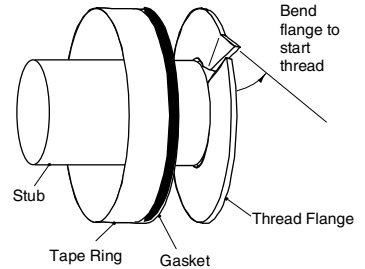

Figure 3. Spin-In Takeoff (for 1-inch (25 mm) Fiberglass Duct)
3. Bend the starting edge of the spin-in takeoff thread flange as shown in Figure 3. Then twist the spin-in into the hole. Be sure that the bottom flange is fully engaged on the inside of the plenum. It may be necessary to apply